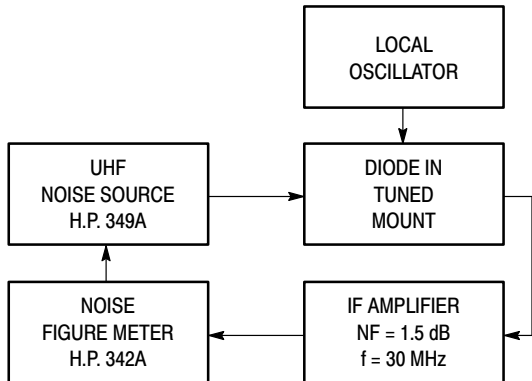

Figure 5. Noise Figure Test Circuit
- Note 2 — Noise figure measured with diode under test in tuned diode mount using UHF noise source and local oscillator (LO) frequency of 1.0 GHz. The LO power is adjusted for 1.0 mW. IF amplifier NF = 1.5 dB,  $f = 30$  MHz, see Figure 5.